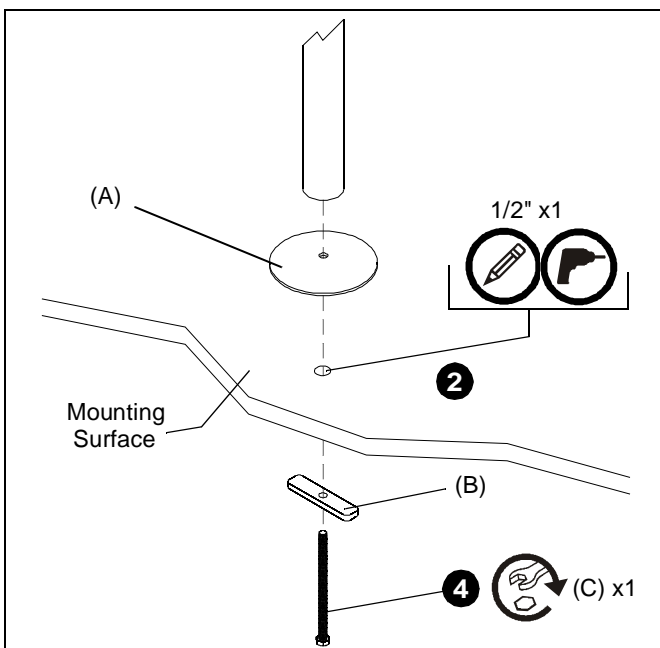

Figure 1
2. Mark installation location and drill one 1/2" dia. pilot hole through mounting surface. (See Figure 1)
3. Position grommet mounting bracket (B) underneath mounting surface and grommet (A) on top of mounting surface and align mounting holes with pilot hole. (See Figure 1)
4. Align mounting hole in bottom of pole with mounting hole in grommet (A) and secure to mounting surface using one 3/8-16 x 6" hex head bolt (C). (See Figure 1)